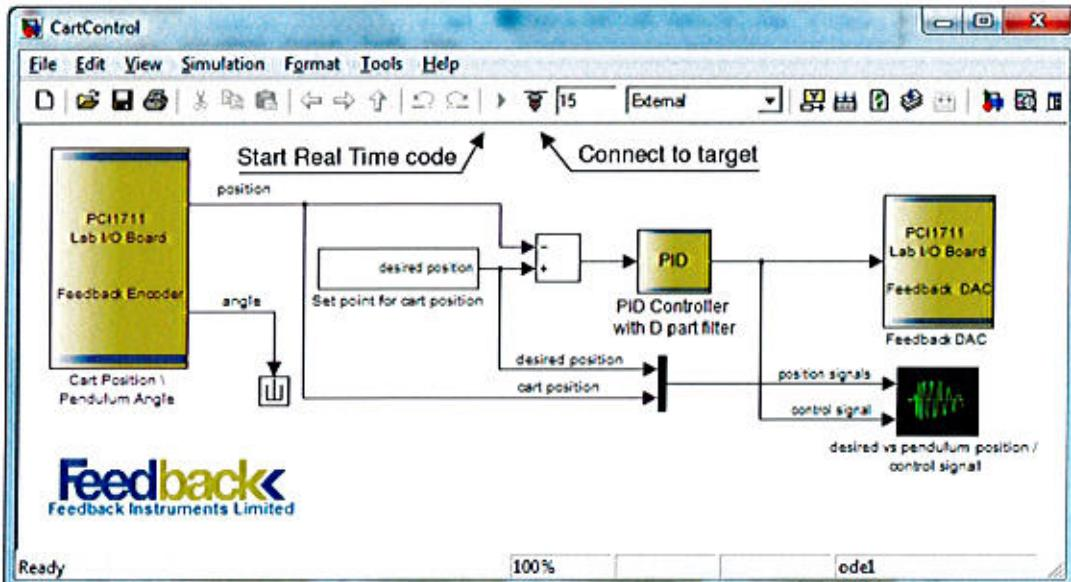

Figure 30 PID Cart Control
The easiest way to test the newly installed system is to run one of the model files supplied. *CartControl.mdl* is suitable for this purpose (Figure 30).
To run a real-time model for example, double click on the 'Pendulum Real-Time Models' block in the main menu. A sub-menu containing all of the real-time models will open. Double click the required model, for example Cart Control. The Simulink model window will open (Figure 30).
3. Connect the application with the target by pressing the *Connect to Target* button (Figure 30) The application will not run yet but the PCI-1711 card will be initialised correctly. Now press the green START pushbutton on the Digital Pendulum Controller unit.
4. If the area around the pendulum is clear you can start the application by pressing the *Start Real Time Code* button (Figure 30).